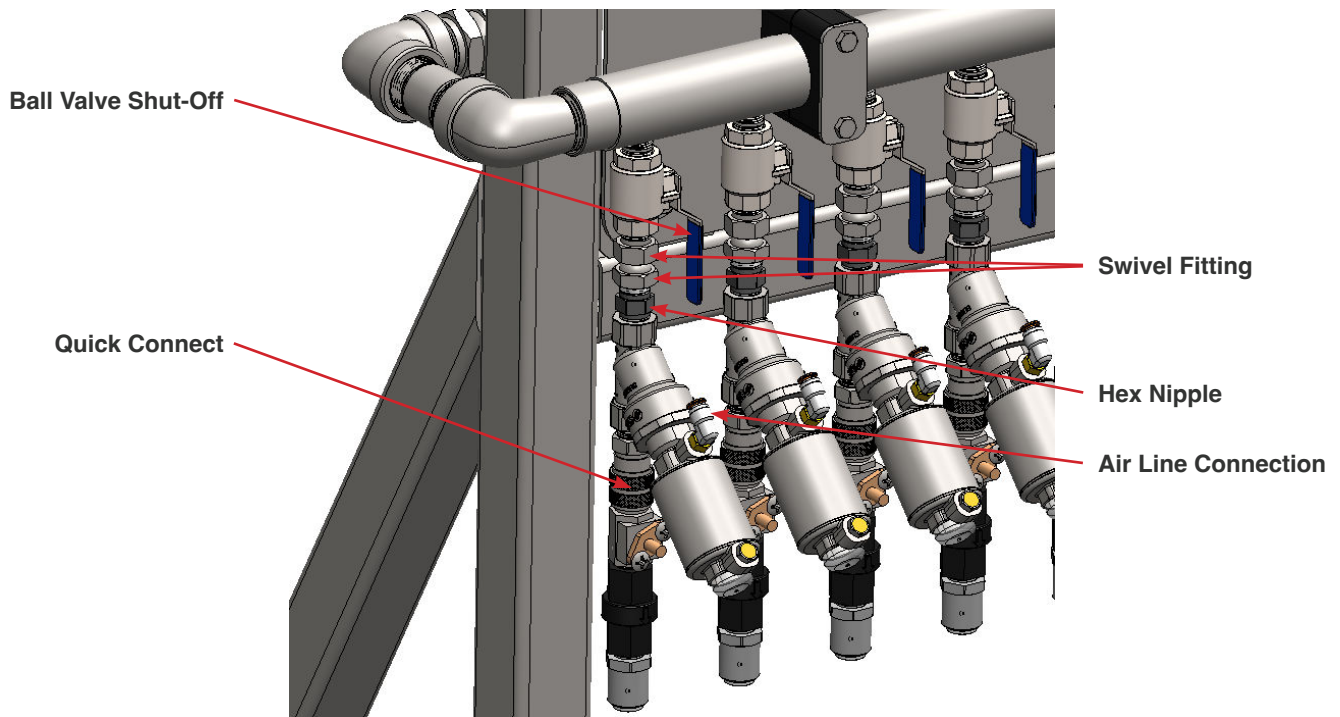

Fig. 7.1.2 - 1 - Process air valve replacement
2. Close the ball valve on the selected function (Fig. 7.1.2 - 1).